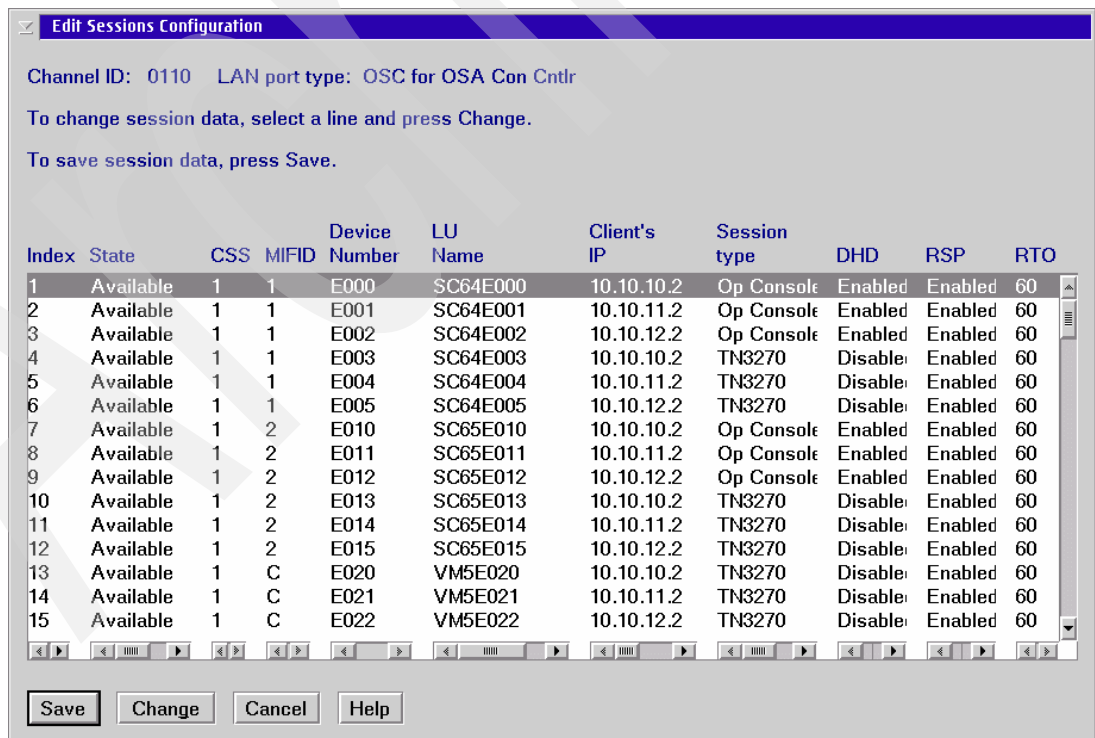

Figure 3-20 Edit sessions configuration with all sessions
The configured sessions in the updated source file can then be displayed using the **Edit sessions configuration** option (see Figure 3-20 on page 60).
15. On the Panel Configuration Options panel, click **Edit sessions configuration** and **OK**. The Edit Sessions Configuration panel is displayed (see Figure 3-20).